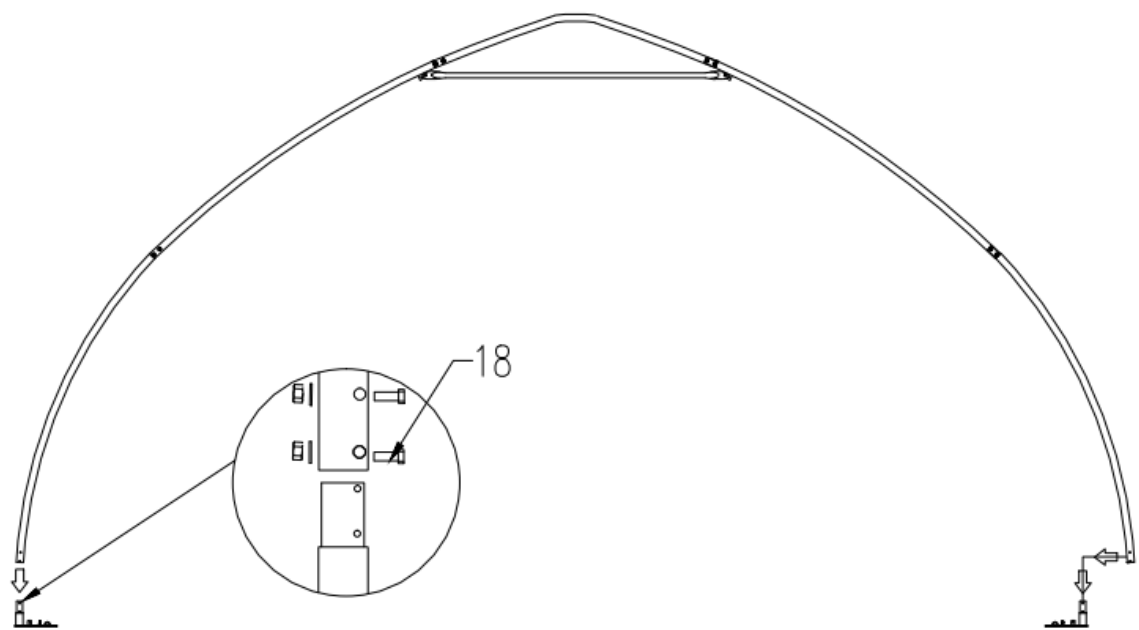

Figure 5
- Use of a crane or forklift is recommended, otherwise a team can use ropes to lift the trusses, but you have to make sure it is safe, and have enough man power. We recommend 3 to 5 people to pull the truss up from different directions. When the truss is up, tie the ropes to the heavy objects to make sure the truss will stay upright and use bolt (#18) to connect the truss to the baseplate on both sides (figure 5).
- Parts used on this step : (4) Half round head bolt (#18).